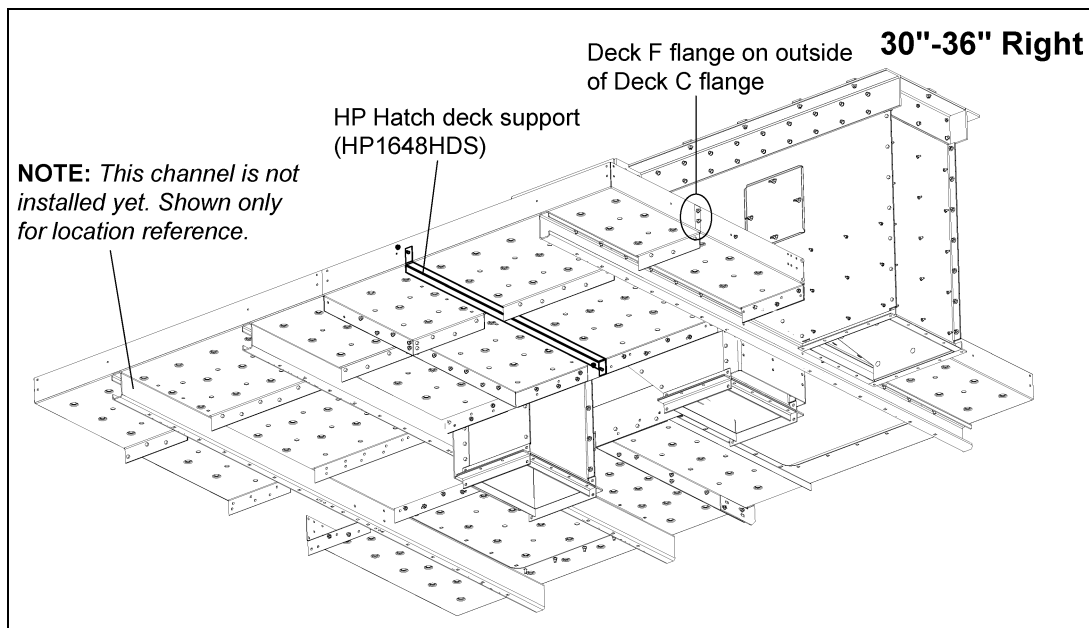

Figure 8N
5. Orient Deck F flange outside of Deck C flange. (See Figure 8N on Page 61.)
7. Install the head platform hatch deck support (HP1648HDS) under Deck C and Deck F using 3/8" x 3/4" bolt (S-7105) and nut. (See Figure 8N.) **NOTE:** You may need to remove a bolt from the toe board if one was installed in this location.